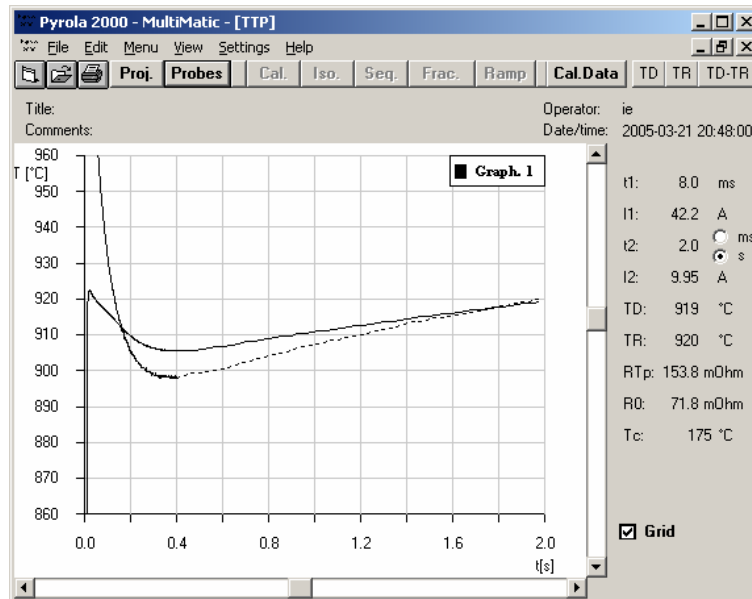

Figure I-6. A second pyrolysis temperature is found by decreasing I1 and I2 with 1.5 and 0.5 A, respectively.
12. A second pyrolysis temperature can be easily found by decreasing I1 with 1.5 A and I2 by 0.5 A. The result is shown in Figure I-6.